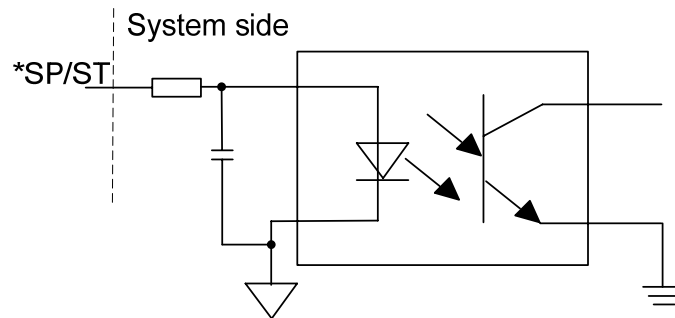

Fig. 4-11-1
*SP/ST signal internal circuit, refer to the Fig. 4-11-1: